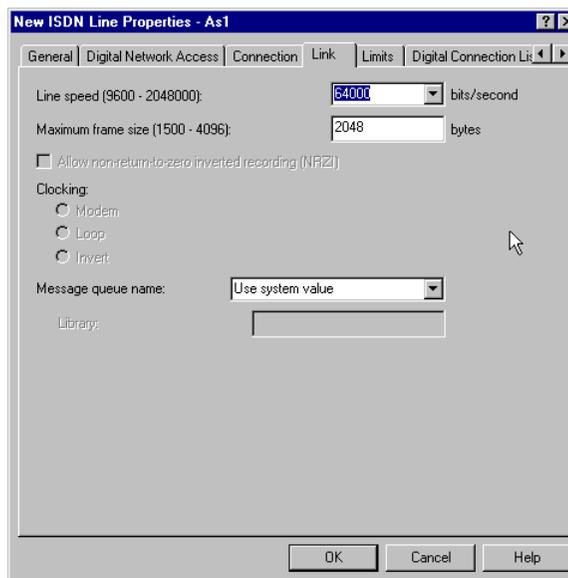

Figure 67. Link page to create a new PPP line profile
8. Select and configure the **Link** page (Figure 67) for a new PPP line.